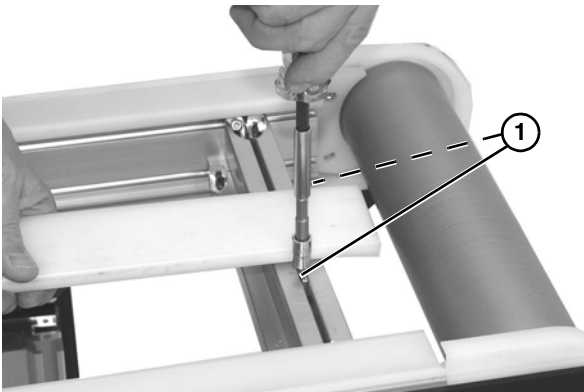

Figure 22
3. Remove two screws (**Figure 22, item 1**) from each clamp on center frame channel.